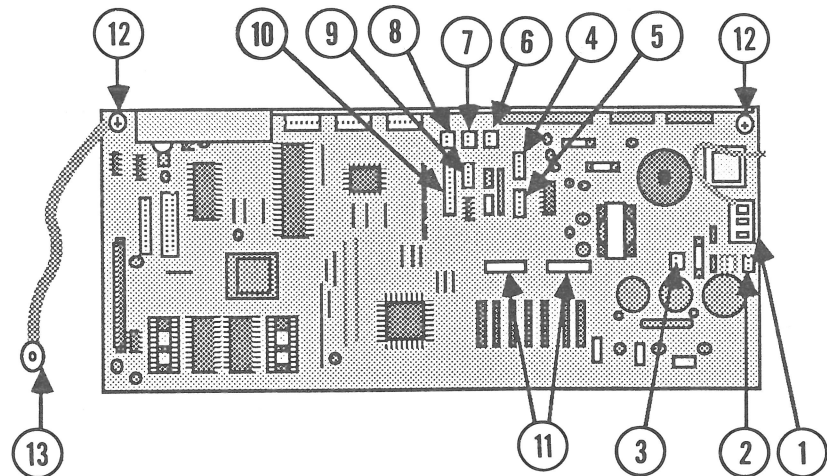

FIGURE 39
4. Disconnect the cable from main board connector CN11 (Figure 39, #1).